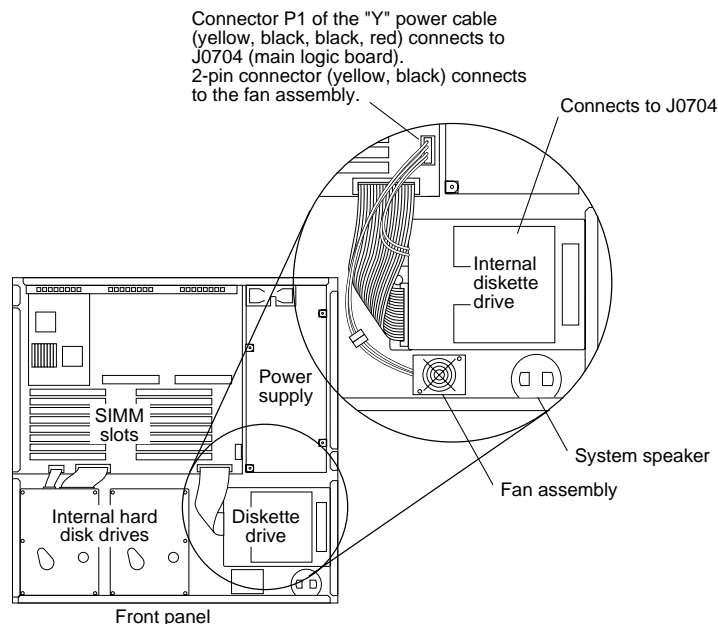

Figure 4-19 Connecting "Y" Power Cable to Fan Assembly.
5. **Disconnect the fan cable from the 2-pin connector of "Y" power cable (Figure 4-19).**
- 2. Connect the fan cable to the 2-pin connector of "Y" power cable (Figure 4-19).**